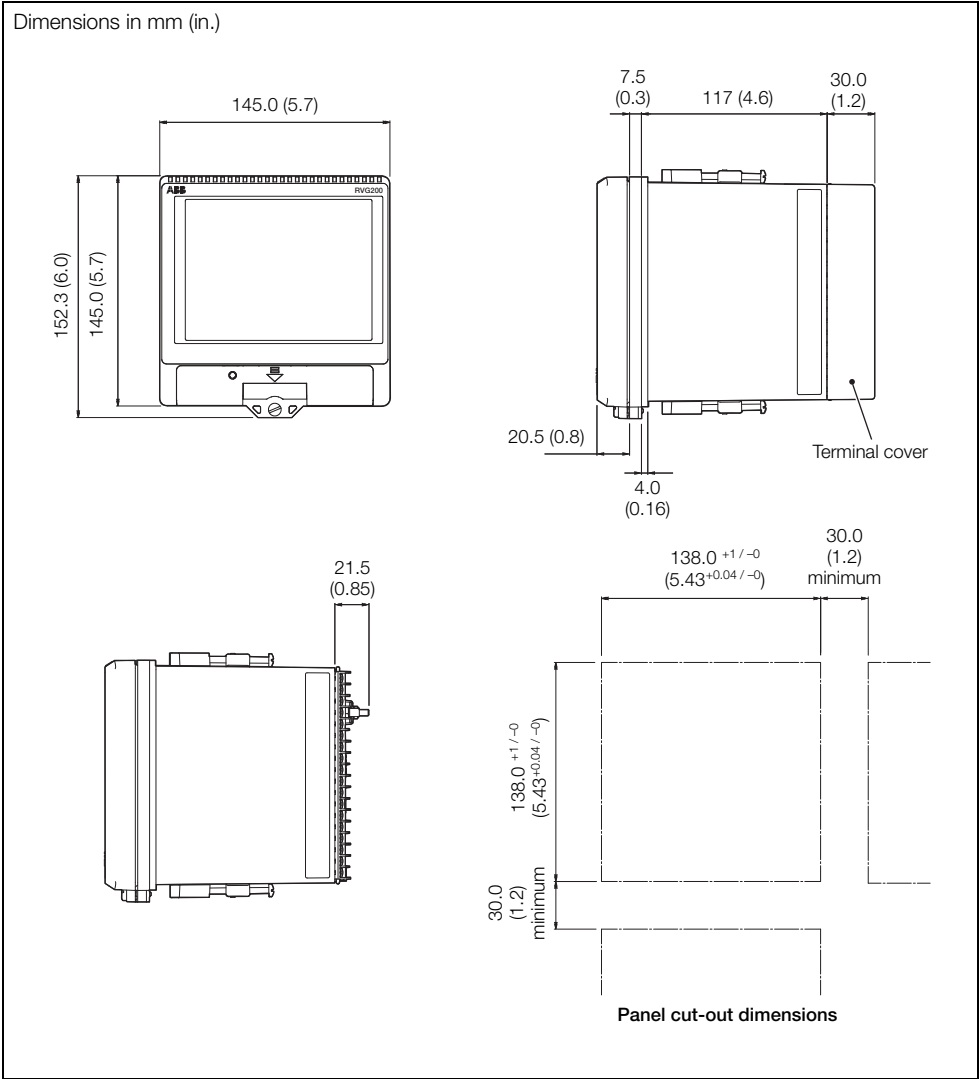

Fig. 4.3 Mounting dimensions
- ① Cut the correct sized hole in the panel – see Fig. 4.3, page 12.
- ② Insert the recorder into the panel cut-out.
- ③ Fit upper and lower panel clamps.
- ④ Tighten the clamping screws evenly and securely to a torque of 0.2 Nm (1.77 lbf.in).